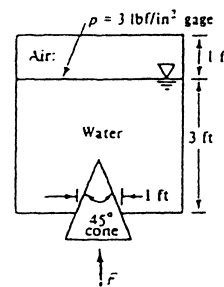

Fig. P2.90
**2.90** A 1-ft-diameter hole in the bottom of the tank in Fig. P2.90 is closed by a  $45^\circ$  conical plug. Neglecting plug weight, compute the force F required to keep the plug in the hole.